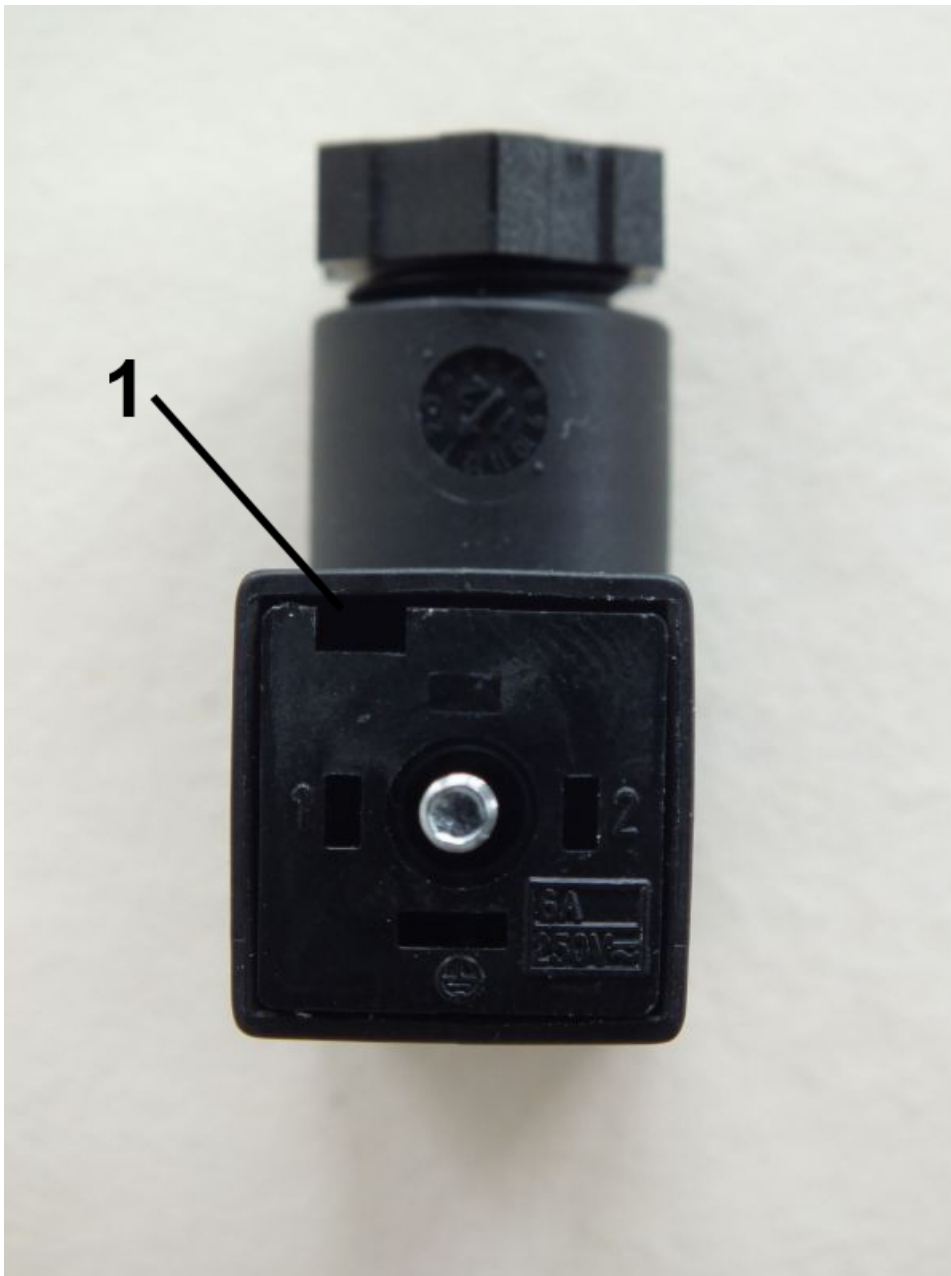

Fig. 22: Loosen inner section
- 3.** ➤ Remove the plug insert from the plug by placing a flat-bladed screwdriver into the slot (*Fig. 22/1*) and carefully pry out the inner section.
- 7.** ➤ Position the plug insert (*Fig. 22/1*) back onto the plug and push until it locks.